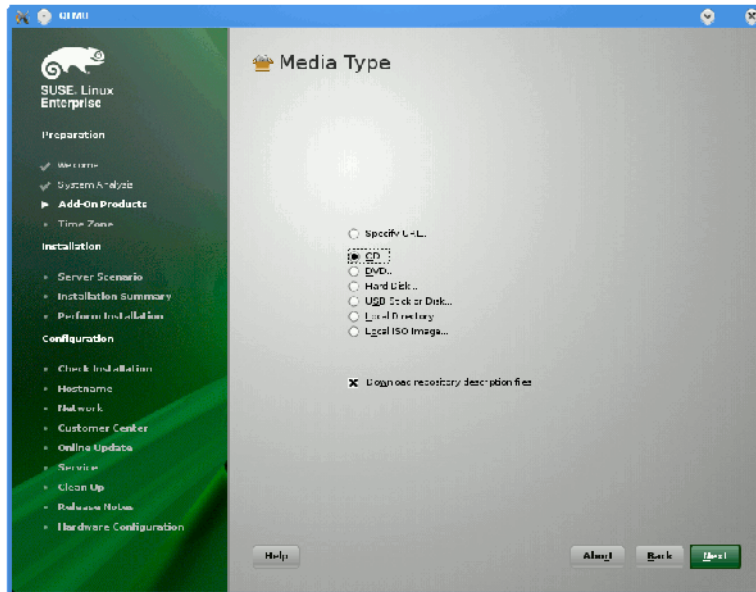

Figure 1-17 SLES11 Media Type Screen
3. From the **Media Type** screen, shown in Figure 1-17 on page 25, click the button to the left of **CD**.